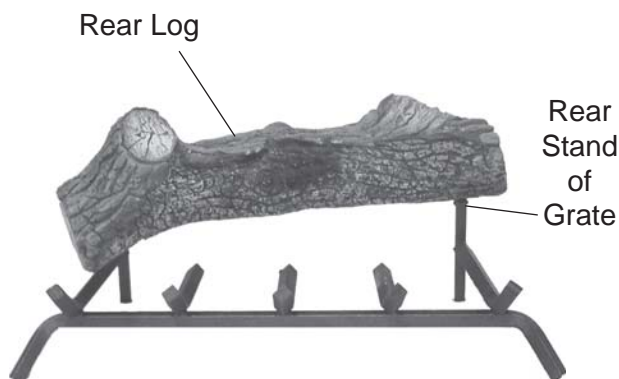

Figure 130 - Placing Rear Log #1 on Back Grate
2. Place Rear Log #1 on back of grate. Left side should fit on grate in front of rear stand. Right side goes on the rear stand of grate. *See Figure 130.*